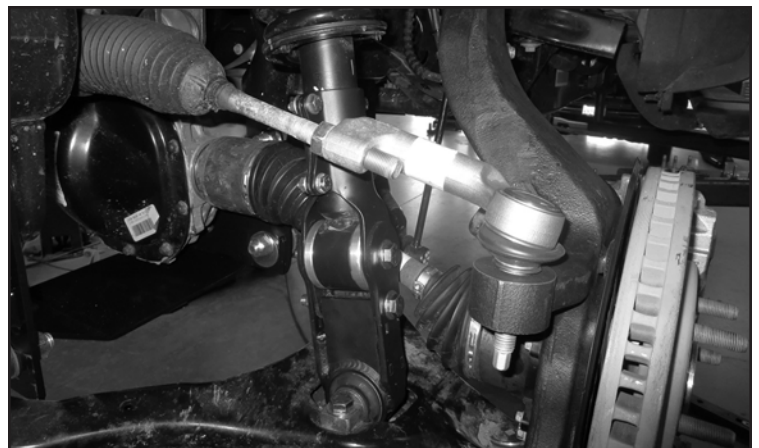

FIGURE 66 - STEP 53
54. Reconnect the tie rod end to the spindle using the factory hardware. Torque to 60 ft-lbs. **SEE FIGURE 66**